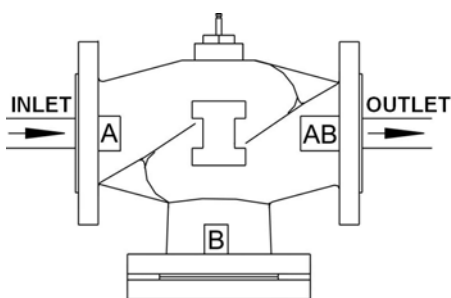

Fig. 1 Two-way valve
1. The valve should be mounted horizontal, the lean angle should not be more than 30°. Otherwise it will influence the working life of the valve. (See Fig. 1 and Fig. 2)